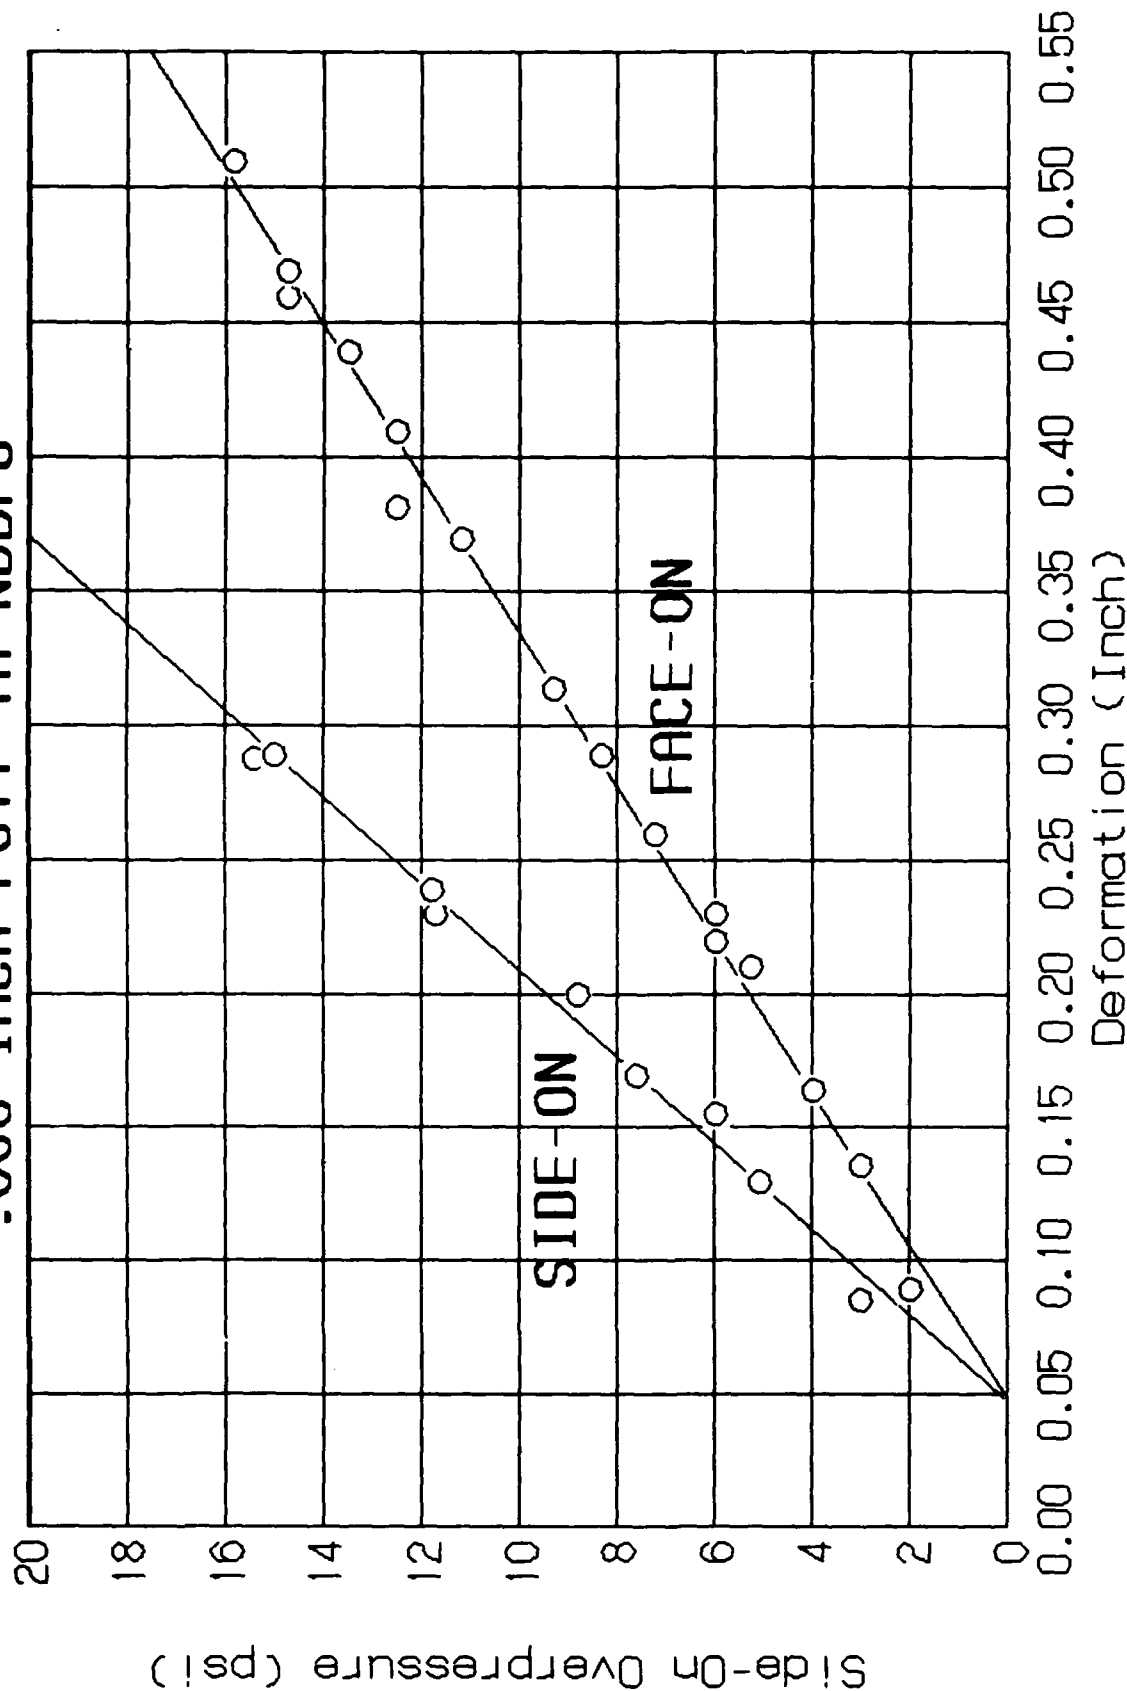

Figure 10. (U) CORRELATION CURVE D
- Figure 10. Correlation curve "D": Side-on overpressure (PSI) correlated with deformation (inch), using .003-in. foil. Curves are plotted for both side-on and face-on configuration of foil plane 14
2.11.8 Calibration Curve "D." This curve correlates side-on overpressure with deformation for .003-in. foil (Figure 10). Use curve labeled "side-on" when the foil plane is to be oriented parallel to the direction of propagation of the initial shock. Use curve labeled "face-on" when the foil plane is to be oriented normal to the direction of propagation of the initial shock.